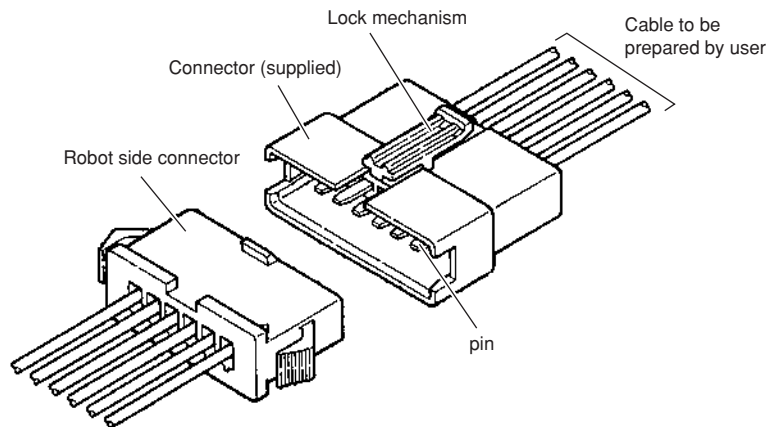

Fig. 3-9
4) On the R6YXC120, R6YXC150, R6YXG120, R6YXG150, R6YXG180, R6YXG220 robots, crimp the user wiring to the connector (supplied) using a crimping tool (J.S.T. Mfg Co., Ltd. YC12) or solder as shown in Fig. 3-9.
- SECURELY FIX THE CONNECTOR (SUPPLIED) TO THE ROBOT'S CONNECTOR USING THE LOCK MECHANISM ATTACHED WITH THE HOUSING (SEE FIG. 3-9). THE OPERATION COULD MALFUNCTION IF THE CONNECTOR DISLOCATES.